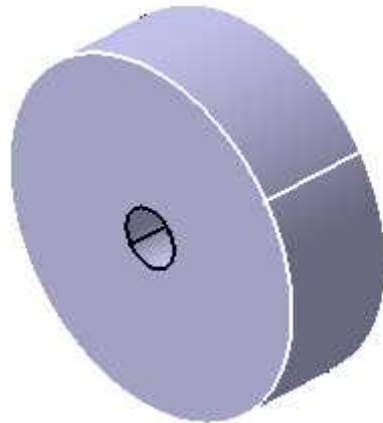

Figure 1.14 Wheel
- *Wheels:* in which are two wheels, and form the connected part to the ground. The generated torque from motor move these wheels forward, or backward to stabilize the link, and also to track the reference input signal. The most important feature in this mechanical part, is preventing the slippage, as most as possible (see Figure 1.14).